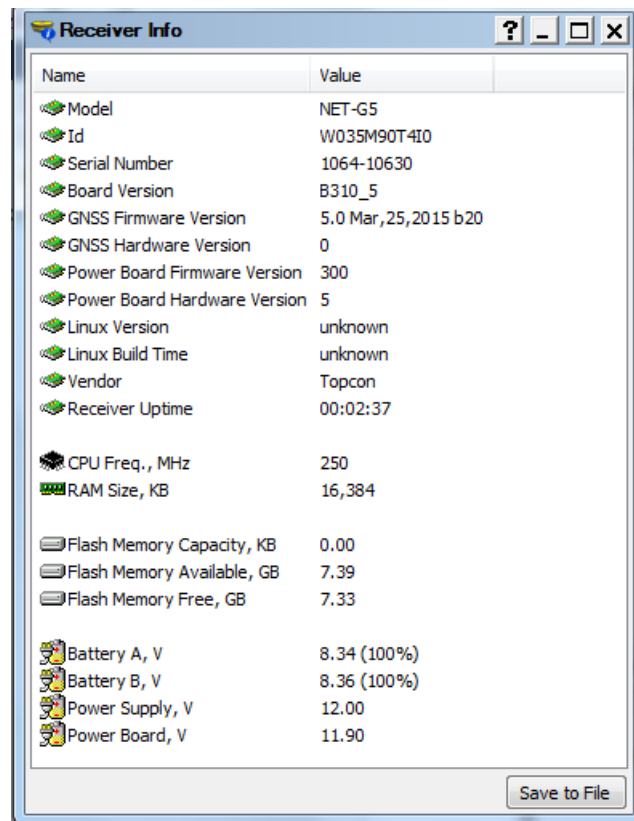

Figure 10: TRU – Receiver Info
6. In the TRU main window, click the **Information** icon. The **Receiver Info** window (Figure 10) appears.